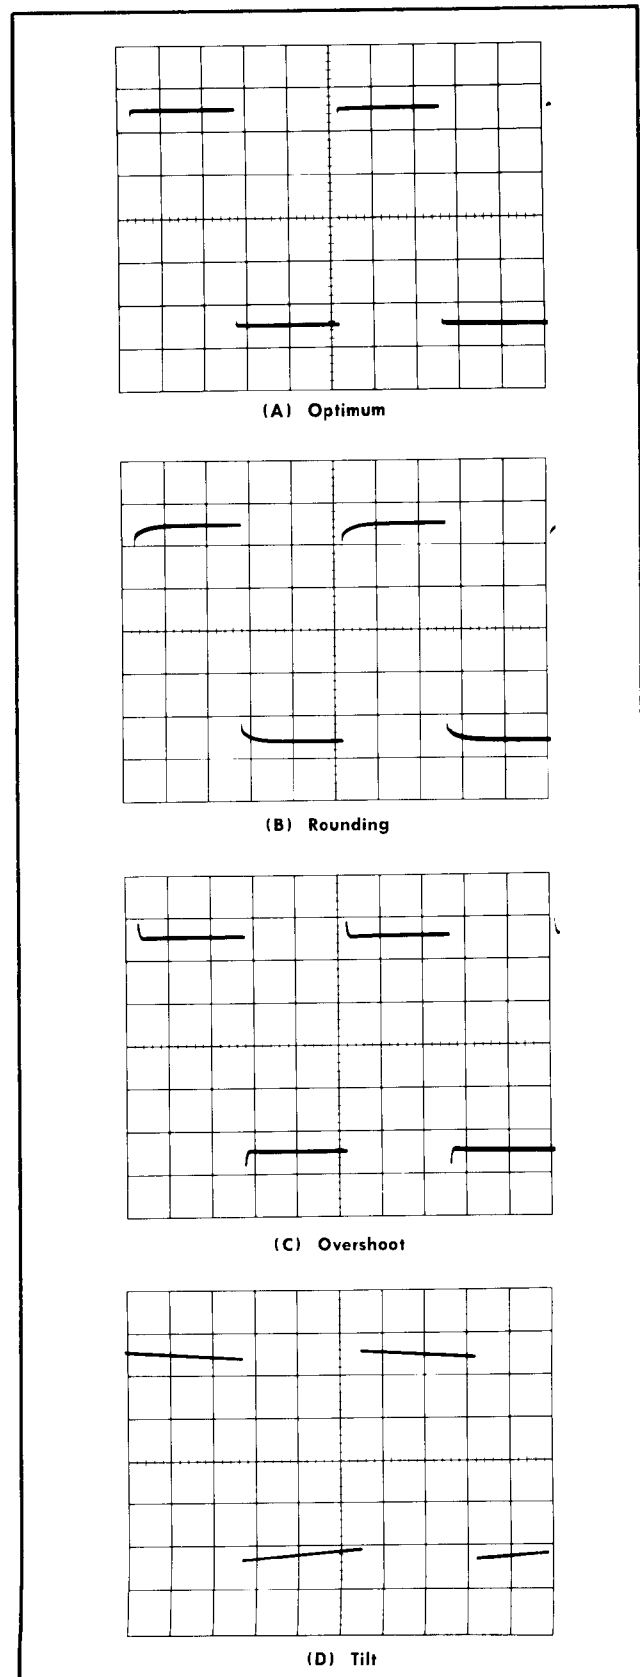
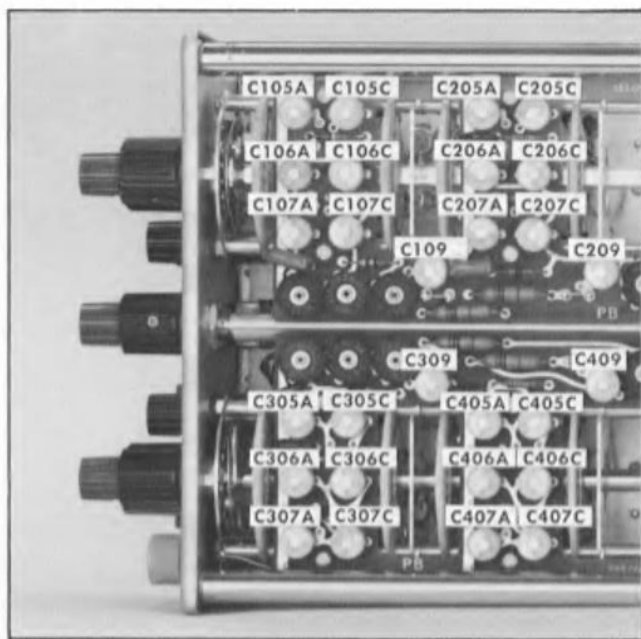

Fig. 6-13. Photographs of waveforms as it may appear when adjusting the input capacitance or attenuator compensation adjustments.
Fig. 6-14. Location of channels 1 and 2 input capacitance and attenuator compensation adjustments.
- d. CHECK—Displayed waveform; should appear similar to the waveform shown in Fig. 6-13.
- e. ADJUST—See Table 6-3 and Fig. 6-14 for appropriate component number and location to be adjusted for a square-wave display having an optimum front corner and minimum tilt (two separate adjustments in most VOLTS/DIV switch positions), see Fig. 6-13.
- k. CHECK—Displayed waveform; should appear similar to the waveform shown in Fig. 6-13.
- l. ADJUST—See Table 6-3 and Fig. 6-14 for appropriate component numbers and locations which should be adjusted for a square-wave display having an optimum front corner and minimum tilt; see Fig. 6-13.
d. CHECK—Displayed waveform; should appear similar to the waveform shown in Fig. 6-13.
e. ADJUST—See Table 6-3 and Fig 6-14 for appropriate component number and location to be adjusted for a square-wave display having an optimum front corner and minimum tilt. See Fig 6-13.
f. ADJUST—See Table 6-4 and Fig 6-14 for the appropriate component number and location to be adjusted to reduce the display amplitude to or below the maximum amount shown in Table 6-4 for the VOLTS/DIV switch position being adjusted.
g. ADJUST—See Table 6-4 and Fig. 6-14 for the appropriate component number and location to be adjusted to reduce the display amplitude to or below the maximum amount shown in Table 6-4 for the VOLTS/DIV switch position being adjusted.